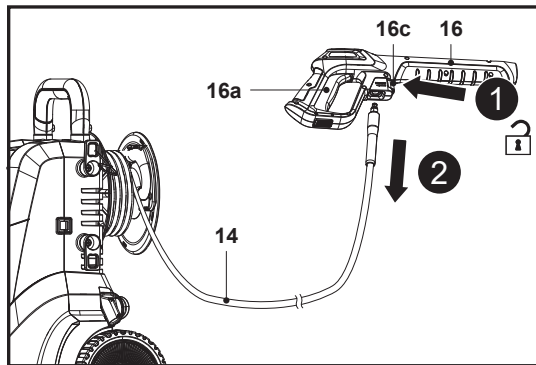

Fig. 8
**WARNING! NEVER TIE KNOTS OR KINK THE PRESSURE HOSE (14) AS DAMAGE COULD RESULT.**
3. To disconnect the pressure hose (14) from the spray gun (16), push the quick release lever (16c) towards the pressure hose (14) and hold it in place, then pull out the pressure hose (14) (Fig. 8, steps 1, 2).